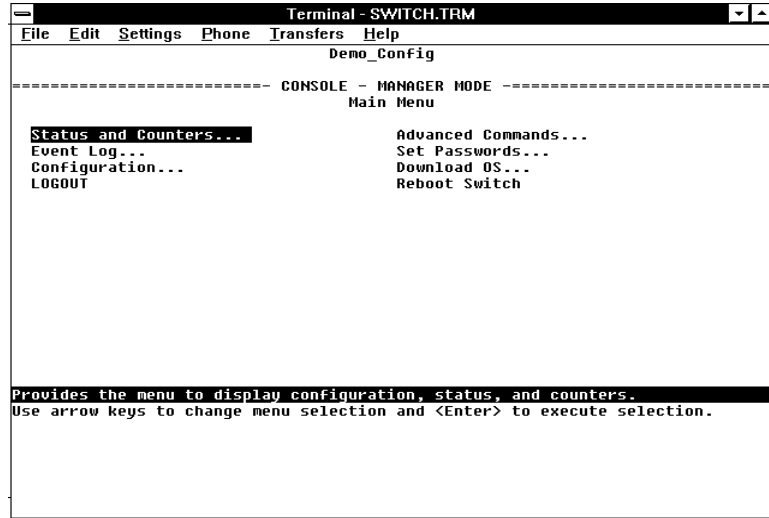

Figure 2-1. The Main Menu
- If a password has been set, the Password prompt appears. Type the password and press  to display the Main Menu (figure 2-1).
Press  to display the Main Menu (figure 2-1).
The Main Menu (figure 2-1 on page 2-3) gives you access to these console interface features: